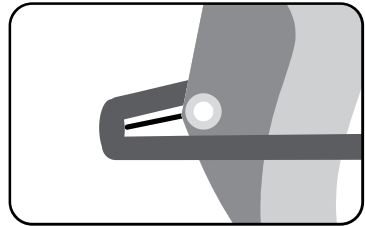

Figure 7: Set the boom length to the outhaul cord
- c) Now, gently pull on the outhaul cord and set your boom to the end of the cord (figure 7).